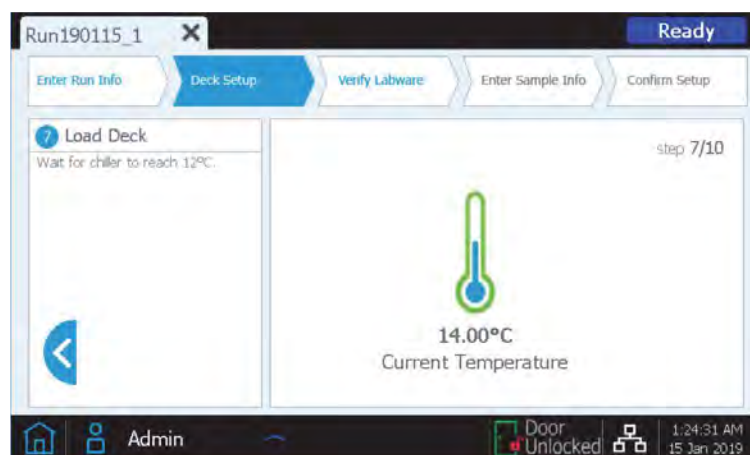

Figure 12. Step 7 of 10 of the *Deck Setup* screen of the Magnis NGS Prep instrument.
- The instrument's chiller module must reach a temperature of 12°C before loading the Magnis instrument. If said temperature has not been reached at this point, the touchscreen will appear as shown in Figure 12. However, if the chiller has already reached the necessary temperature, this screen will not appear.